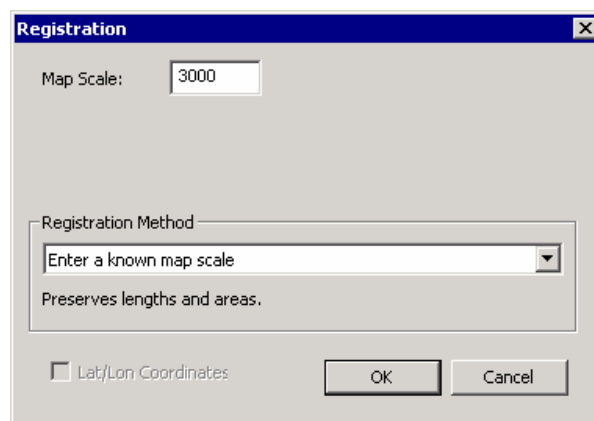

Figure 7.6: Mapsheet Orientation Dialog
7. Press the *Digitize New Feature* button  to activate the *Mapsheet Orientation dialog* box shown in Figure 7.6. Change the Map Scale from “5000.0” to “3000.0” (this is the scale of the printed boundary). Make sure “Enter a know map scale” is selected in the *Registration Method* combo box. Press OK.